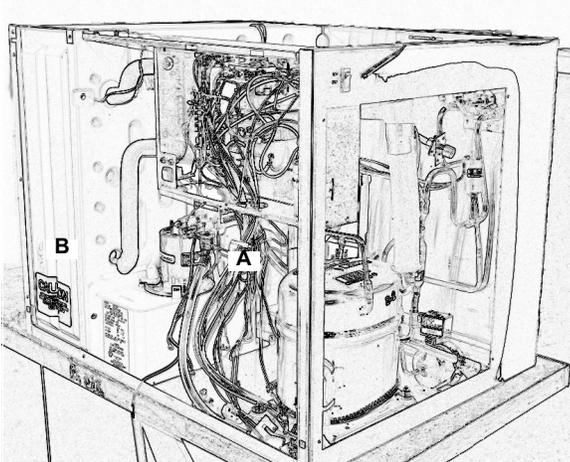

Figure 49.
- 64. After verify the proper operation of the unit, replace the electrical control box cover (A) using (1) Phillips head screw.
Replace the evaporator splash panel (B) (Figure 49).